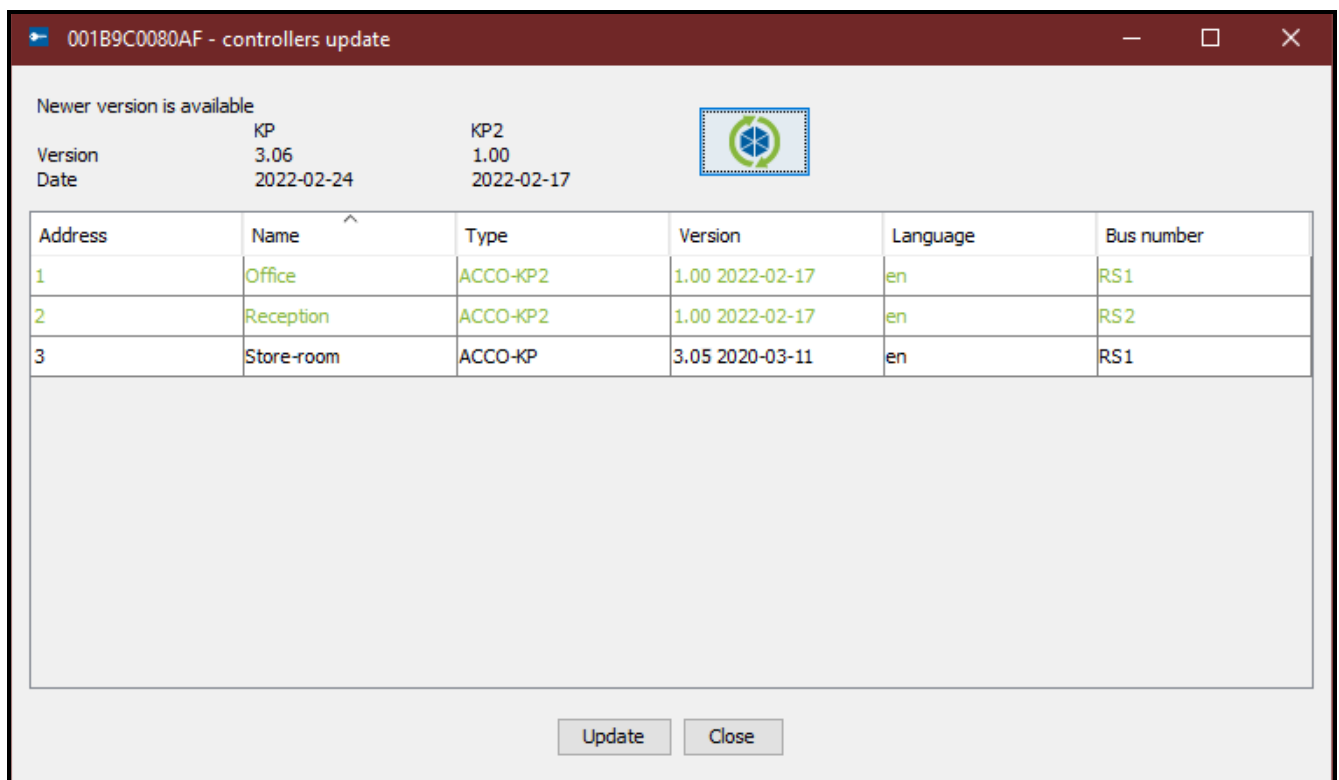

Fig. 23. Controller firmware update window.
3. A window will open with the current firmware version of all selected devices, as well as information on the new available module versions for ACCO-KP / ACCO-KP-PS / ACCO-KPWG / ACCO-KPWG-PS and ACCO-KP2 (see Fig. 23).